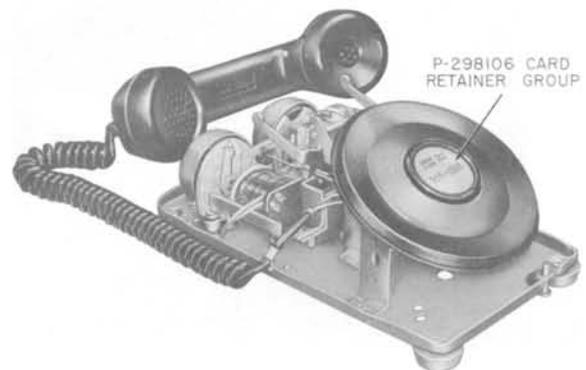

Fig. 9—95C Apparatus Blank on Dial Mounting Bracket in 500- or 501-Type Telephone Set
- Place P-298106 card retainer group containing station number card on apparatus blank (Fig. 9)